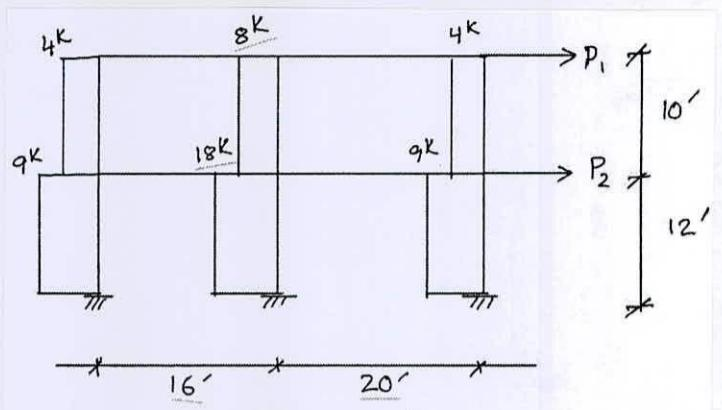

Fig. 9
6. Shear force diagram of columns of a frame for lateral loads P_1 and P_2 , is shown in Fig. 9. Evaluate the value of P_1 and P_2 using Portal Method. Furthermore, draw bending moment diagram, and axial force diagram of columns. Also, draw bending moment diagram, shear force diagram and axial force diagram of beams. (28)